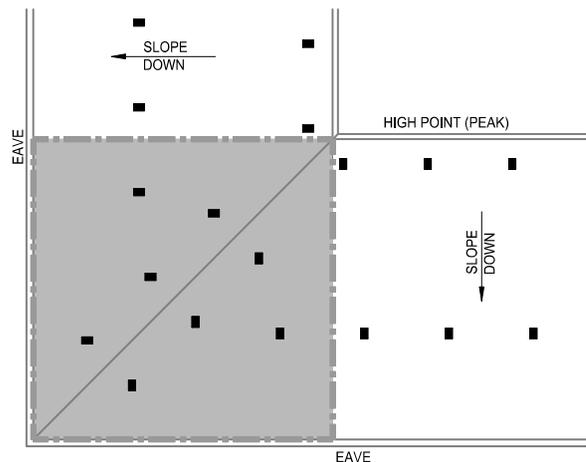

FIGURE 24D
- Calculation #3: Calculate all sprinklers within the shaded corner Hip area as shown. See Figure 24D.